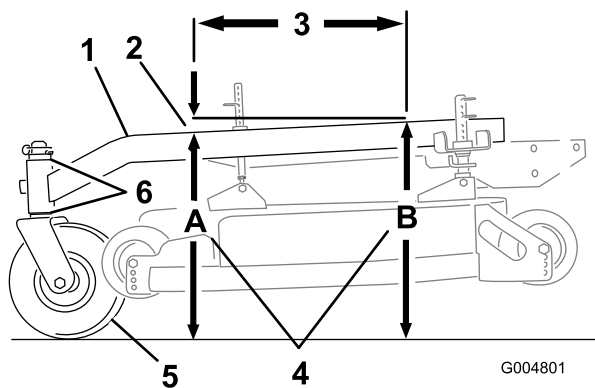

Figure 54
The carrier frame must have a pitch between 3 mm (1/8 inch) to 9 mm (3/8 inch) over the length of 61 cm (24 inches) on the carrier frame (Figure 54).
1. Measure out 61 cm (24 inches) on the carrier frame (Figure 54).
2. Measure carrier frame height at location **A** (Figure 54).
3. Measure carrier frame height at location **B** (Figure 54).
4. The height at location **A** must be a 6-10 mm (1/4-3/8 inch) lower than location **B** (Figure 54).
5. If the carrier frame is not correct, move caster spacers to make it a 6-10 mm (1/4-3/8 inch) pitch (Figure 54). Move spacers from top or bottom to make the correct pitch.